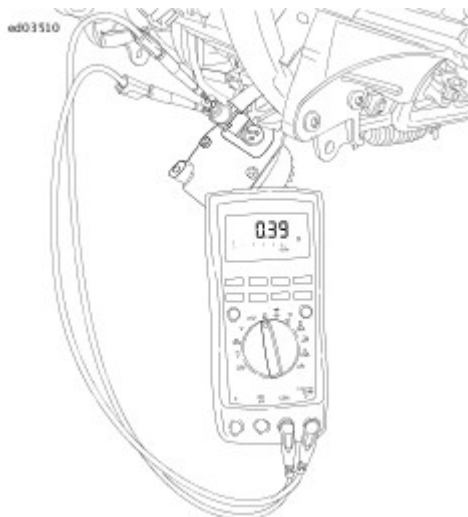

Figure 4. Check for Stator Resistance (Typical)
4. See **Figure 4**. Remove ground lead. Test resistance across stator [47B] terminals 1-2, 2-3 and 3-1.